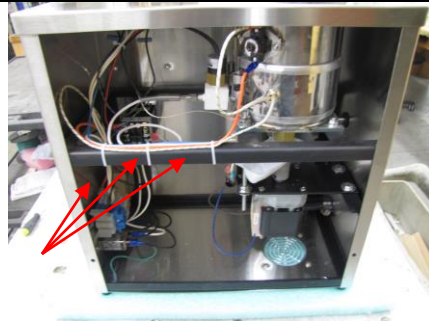
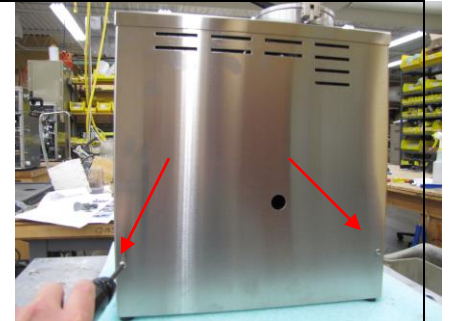

Figure 19
Figure 20
10. Use cable ties to tie back wires against the lateral steel brace as shown in Figure 19. Replace back panel. Tuck it up under the top edge first and secure screws with Phillips Head screwdriver as shown in Figure 20.